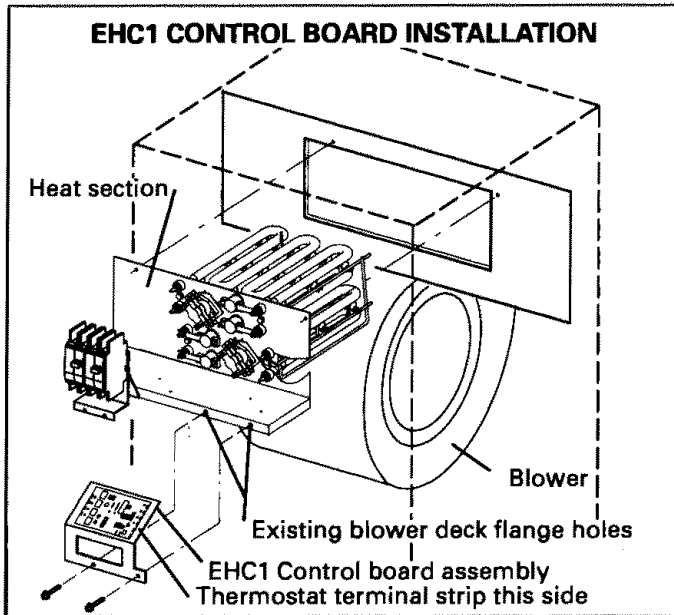

FIGURE 7
Refer to figure 7 for control board assembly installation.
- 1 - Assemble EHC1 control board with mounting bracket. See figure 7 for orientation.